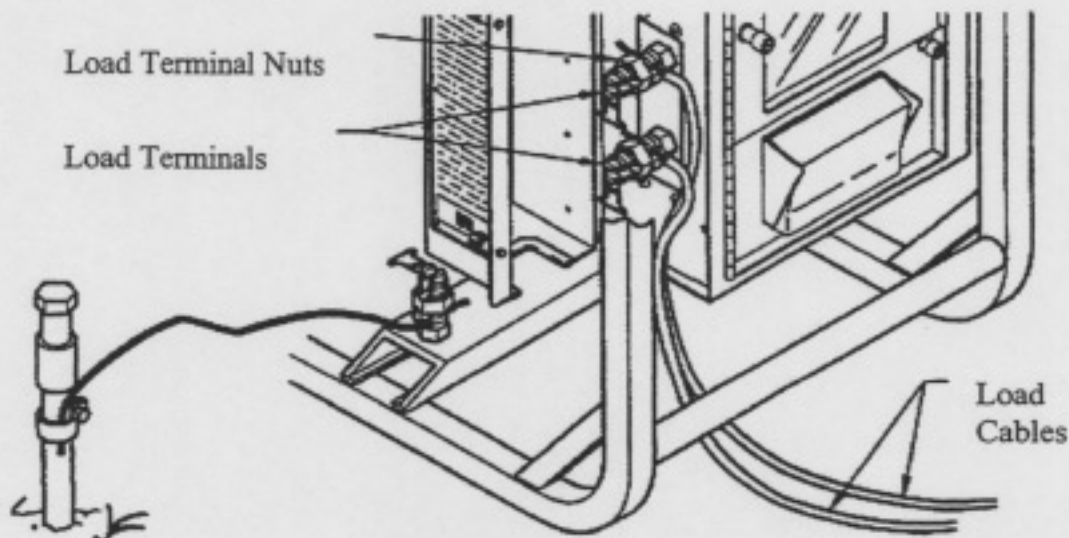

Figure C-2. Installation of Load Cables
2. Using suitable wrenches, hold the terminal body hex with one wrench and loosen the terminal nuts (Figure C-2) on terminals "L" and "N".